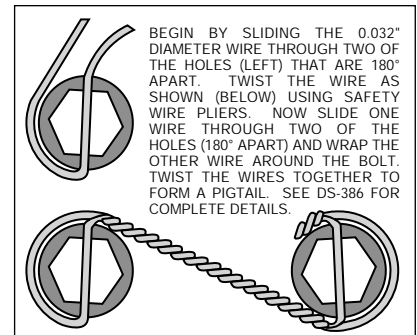

Figure 3. Safety Wire Diagram
•The rotor (3) has two sides. A flat side and an inset side. Bolt hat (2) to flat side of rotor (3) using lock washers (4) and bolts (5). Torque bolts (5) to 180 in-lb. Safety wire bolts (5) using standard 0.032 inch diameter stainless steel safety wire as shown in Figure 3. Please refer to Wilwood's data sheet DS-386 (available at www.wilwood.com/pdf/ds386.pdf) for complete safety wire installation instructions.
•Align the correct hole pattern in the hat (2) with the stud pattern on the axle flange. **NOTE:** Some OEM and after market axles come with stud sizes larger than 0.50" diameter. Verify stud size and have a qualified machine shop drill the hats to the correct size. Slide the hat/rotor assembly (2 and 3) over the wheel studs and against the axle flange face.
•**NOTE:** Please reference the caution statement at the beginning of the assembly instructions. WITH THE BLEED SCREWS POINTING UP, mount the caliper (6) over the rotor (3) and onto the caliper mounting bracket (1) using lock washers (7) and mounting bolts (8). View the rotor through the top opening of the caliper. The rotor should be aligned in the center of the caliper. If not, adjust the caliper by using 0.032 inch shims (9) by placing them between the caliper mounting bracket (1) and the caliper (6). Apply red *Loctite*® 271 to the mounting bolt threads (8), torque to 30 ft-lb. Safety wire the caliper mounting bolts (8).
•Position the Wilwood disc brake pads (10) into the caliper (6) and fasten with cotter pin (11). Steel backing plate side of brake pad should face the caliper pistons.